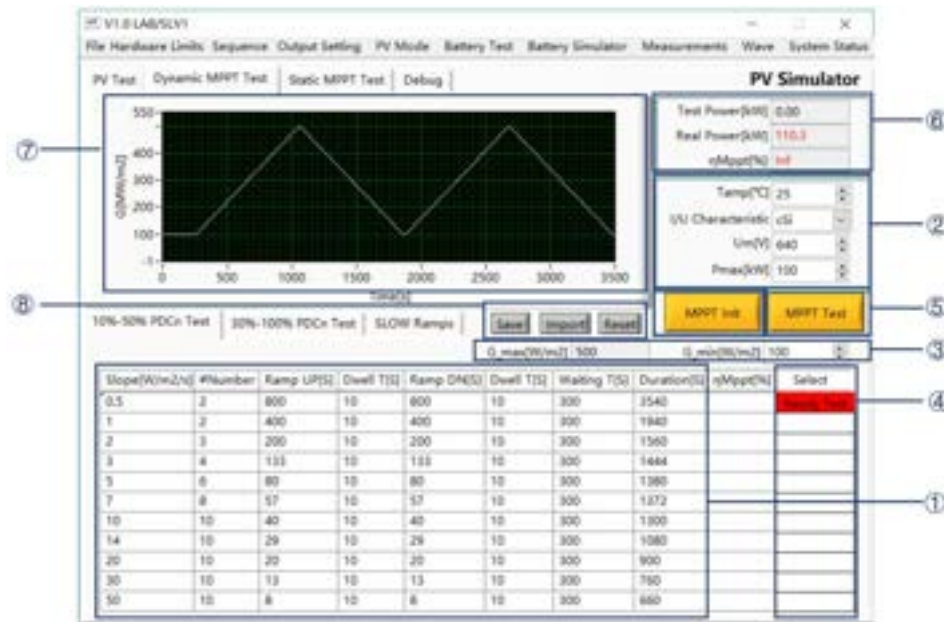

Figure 5-15 Dynamic MPPT test
Set the temperature (Tamp), I/U characteristics (crystalline silicon/thin film mode), Um, Pmax, initial irradiance and other parameters (Figure 5-15②③), click to switch the state of the test line to the ready state (Figure 5-15④), Click "Initialize button" (MPPT Init) → "MPPT Test button" (MPPT Test) (Figure 5-15⑤), the software will automatically calculate and display the real-time parameters during the test (Figure 5-15⑥), and generate a simulation curve in the waveform display area (Figure 5-15⑦). After starting the MPPT test, the remaining test time will be displayed according to the test progress, and the corresponding status will be displayed. When each line is executed, the dynamic maximum power point tracking efficiency MPPT will be calculated. When the test is completed or the test is stopped, the MPPT test parameters in the table will return to the initial state.